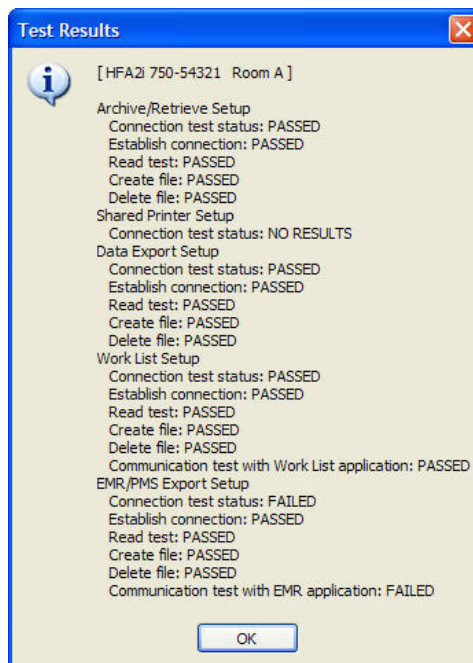
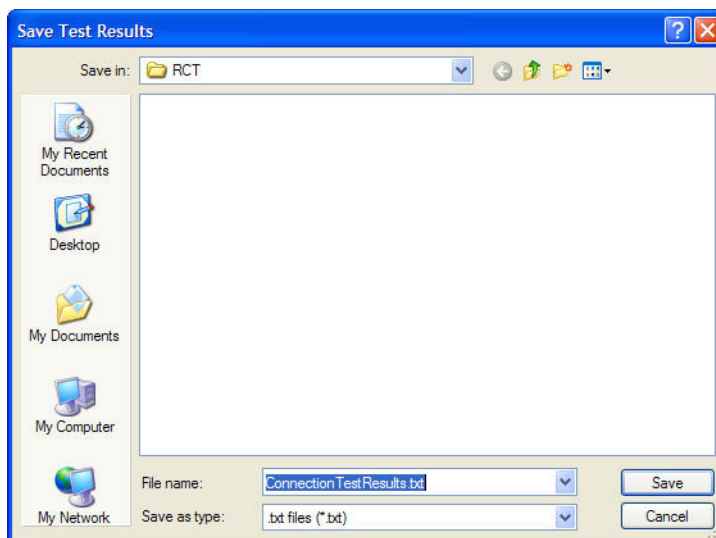

Figure G.53 Test Results
Figure G.54 Save Test Results
- 5 A VIEW TEST RESULTS button will be provided if any instrument failed a connection test. Clicking this button will display a log (Figure G.53) for the first failed instrument showing the same messages that are displayed during an HFA II-/ Test Connection invoked from its Network Diagnostics menu. Clicking OK will display a test log for the next instrument that failed the connection tests, if any. A SAVE TEST RESULTS button will also be provided. Clicking this button will open a dialog where you can save the test results to a text file (Figure G.54). The default file name is "ConnectionTestResults.txt" in the current working directory. This file contains the results for all tested instruments, passed or failed.